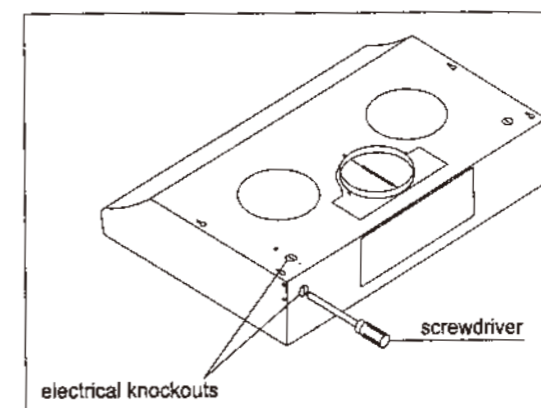
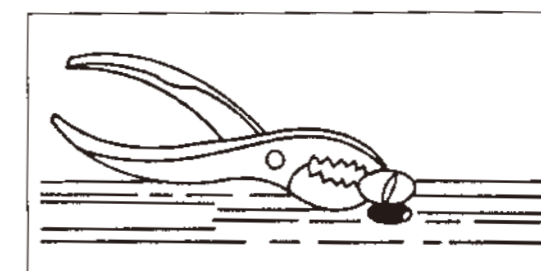

Fig. 7 Electrical knockouts
Fig. 8 Remove the electrical knockouts
1. Remove the top or the rear electrical knockout according to the location of the power cable. (Fig. 7)
2. Loosen the knockout with a screwdriver and use pliers to pull out the loosened knockout. (Fig. 7 & Fig. 8)